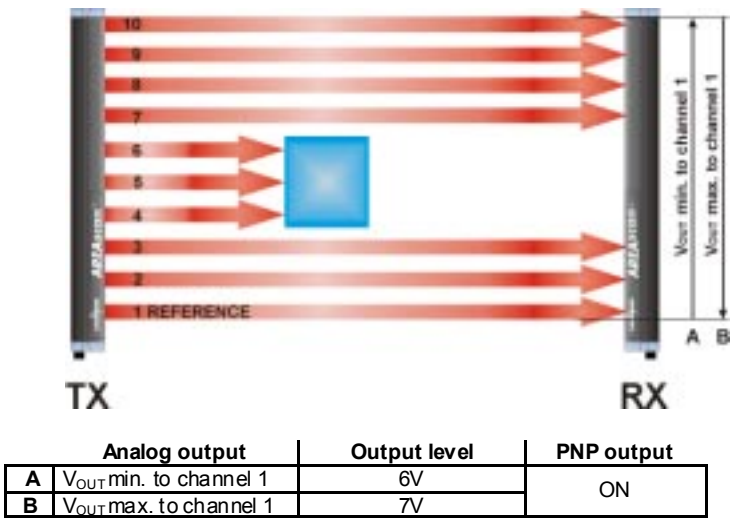

Fig. 10
Fig. 10 can be taken as an example: the obscuring of the beams is considered as corresponding to the V_{OUT} of 1V variation. At the obscuring of the last beam, the V_{OUT} reaches the 10V full scale. If the V_{OUT} min. option is set to the channel 1 (A), the V_{OUT} in question will be = 6V; on the contrary will be = 7V (B).